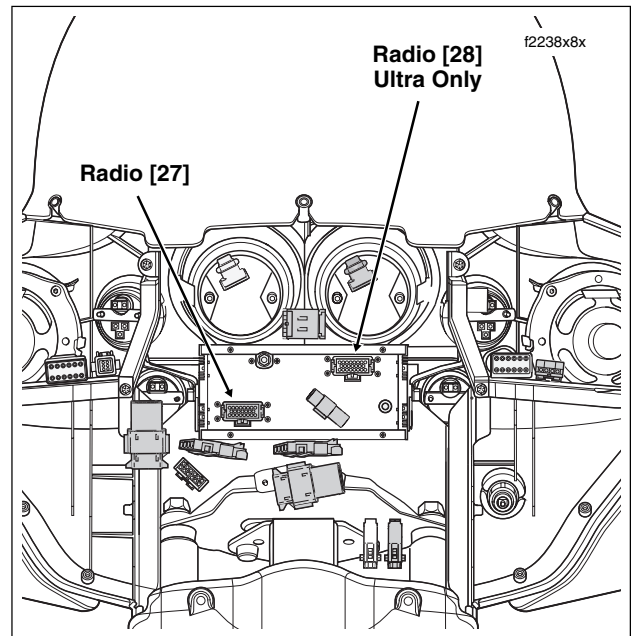

Figure 6-8. Radio Connections - FLHTCU
2. Remove black connector [27] from back of radio to release interconnect harness. See Figure 6-8.
2. Install black connector [27] at back of radio to connect interconnect harness. See Figure 6-8.